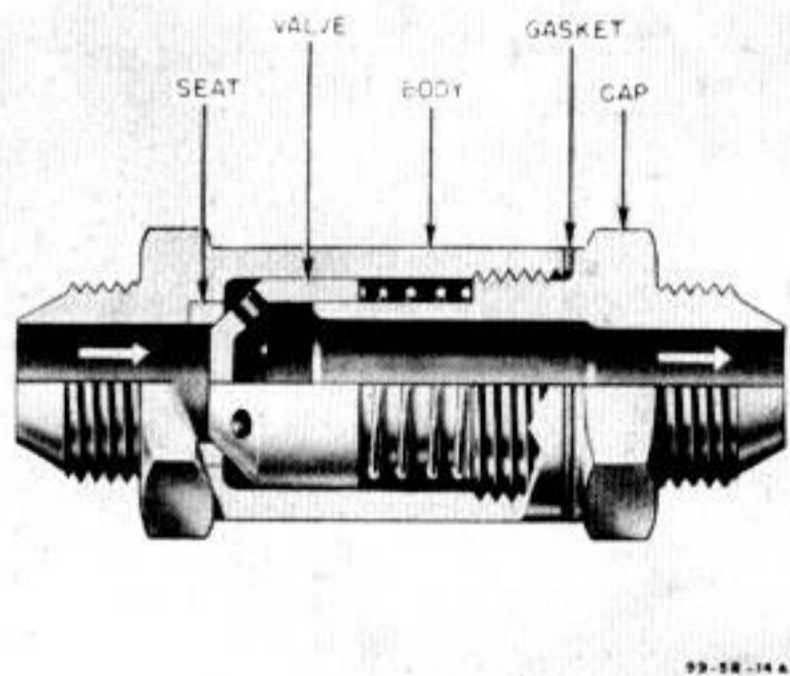

Figure 335—Hydraulic Check Valve
(1) HYDRAULIC SYSTEM CHECK VALVES. (See figure 335.)—Standard one-way check valves at various points of the system permit flow in one direction only. When in-